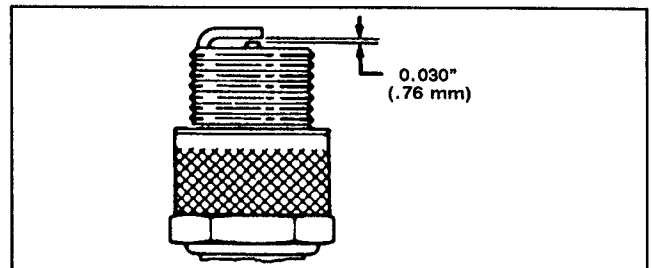

Figure 12
3. Set air gap at 0.030" (0.76 mm) (Fig. 12). Install correctly gapped spark plug and gasket seal. Tighten plug firmly to 15 ft-lb (20 N·m).